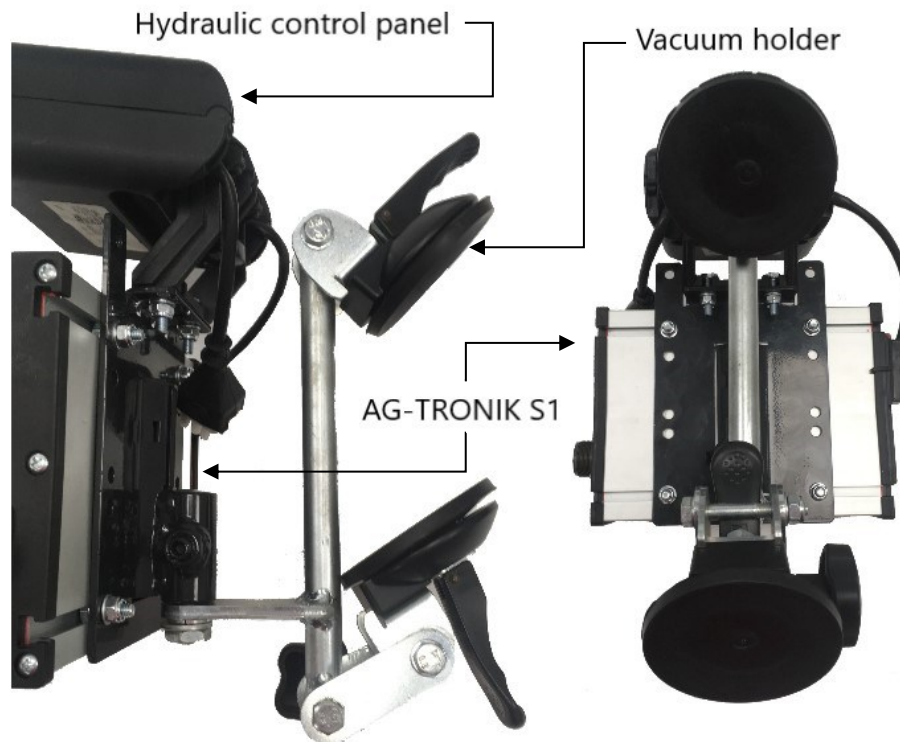

Figure 7
- Screw the AG-TRONIK with the four screws in the groove on the back side (Figure 7).
- Using the two screws, screw the control panel into the sliding bracket (Figure 7).